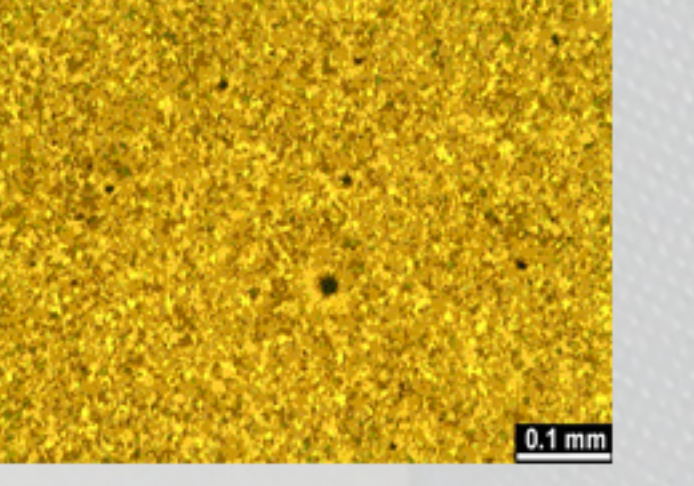

Figure 3 - 100x magnification on a metal gear
-Based on the images it has been confirmed that the gears are made out of powdered steel. On figures 3 and 4, the black dots represent the voids or empty spaces in the material.